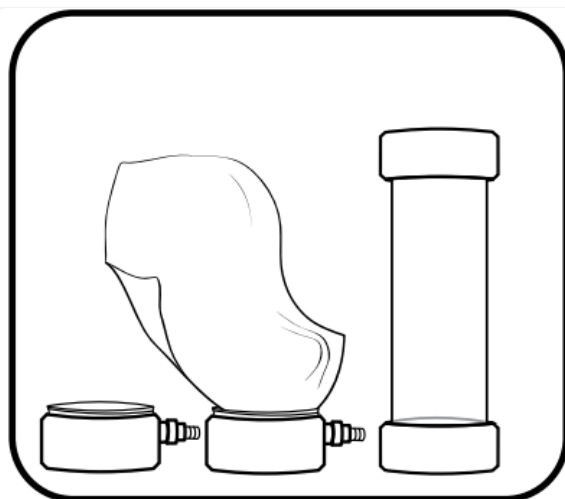

Figure 46. Clean Flow Cell
**STEP 5** | Clean flow cell (Figure 46). Use water and a mild detergent and water to wipe clean the flow cell parts. Use a bottlebrush for the tube fittings and tubing, as necessary/applicable.